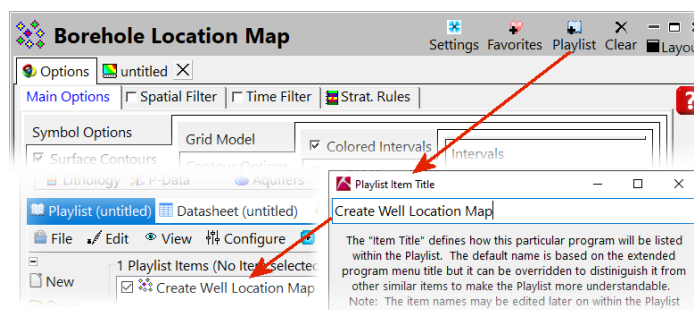

Figure 60
- Add this process to a new Playlist by clicking on the Playlist button located at the upper-right corner of the Borehole Location Map menu (Figure 60). Enter “Create Well Location Map” and this item will be added to the Playlist.